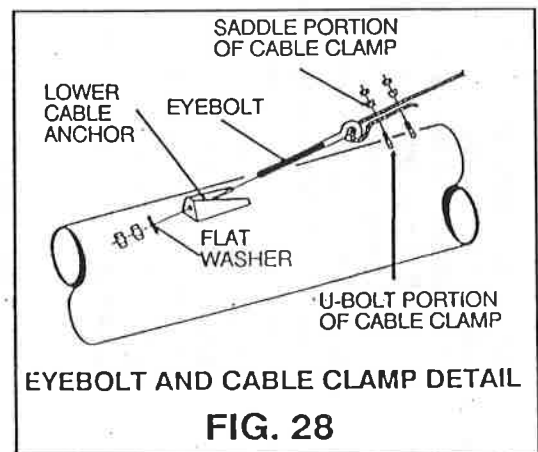

FIG. 28
Step 5. Install eye bolts through anchors at intake end, using flat washer and two nuts per each eyebolt. (See Fig. 28.)
Step 6. Attach cables to eye bolts using two cable clamps per cable. NOTE: Secure the clamp u-bolts against the loose end of the cable. (See Fig. 28.)